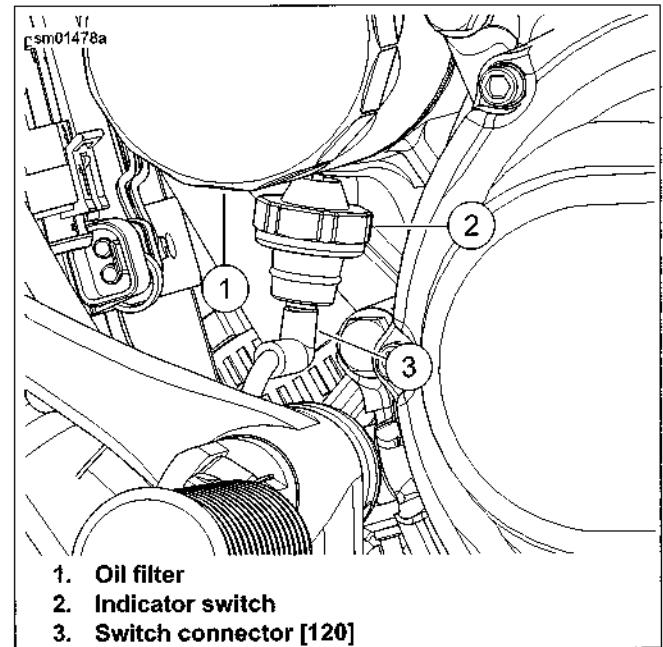

Figure 3-2. Oil Pressure Indicator Switch
1. See Figure 3-2. Detach wiring from oil pressure indicator lamp switch (2).
3. See Figure 3-2. Coat threads of oil pressure switch (2) with LOCTITE 565 THREAD SEALANT.
5. Plug in connector [120] (3) by pushing elbow connector straight up onto stud on oil pressure switch.